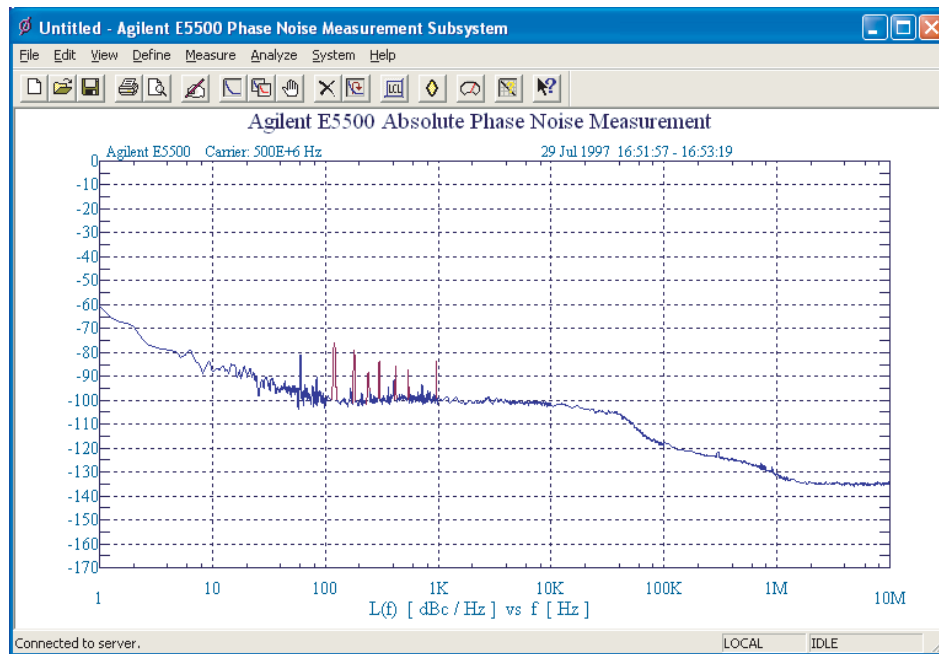

Figure 9 Main E5500 user interface window
- 2 When the program starts, the main E5500 measurement window appears (see Figure 9 on page 36). It shows the phase noise graph.